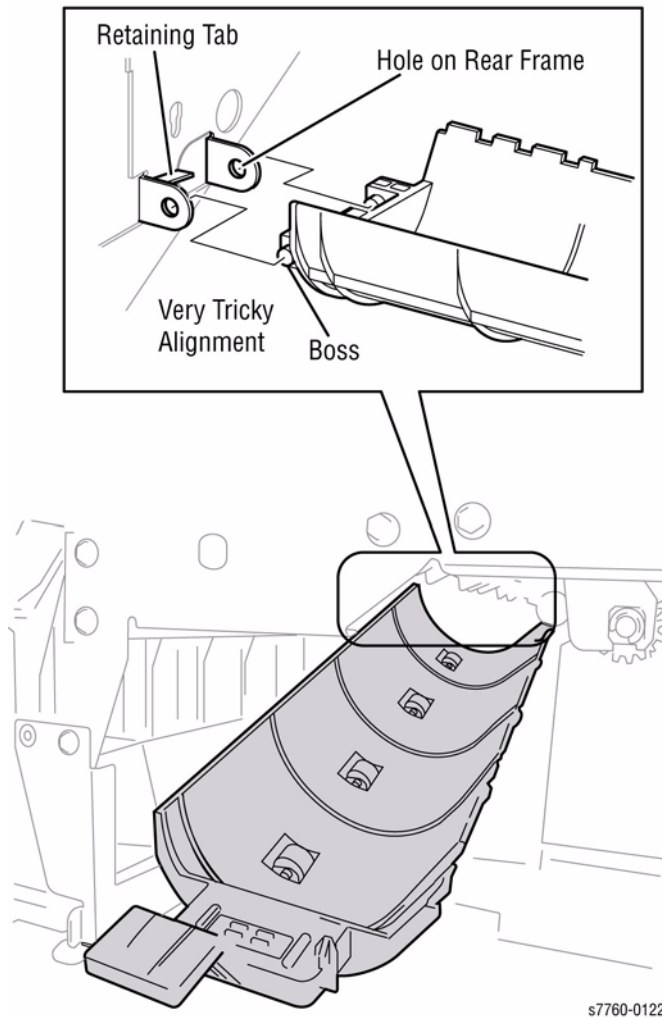

Figure 3 Removing Bottom Buffer Chute Assembly
- b. Hold the bottom of the Buffer Chute Assembly and move the Boss out of the hole from the rear Frame (Figure 3).
NOTE: Ensure to align the Boss in the hole in the rear Frame (Figure 3).